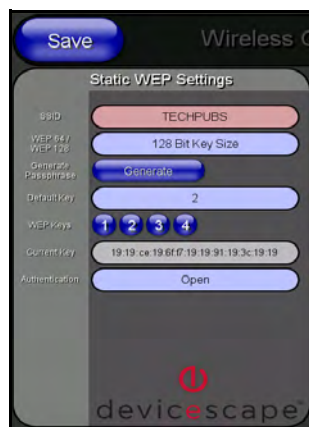

FIG. 13 Static WEP Settings window
2. From within the Wireless Security section, press the **Static WEP** button to open the on-screen Static WEP Settings window (FIG. 13).